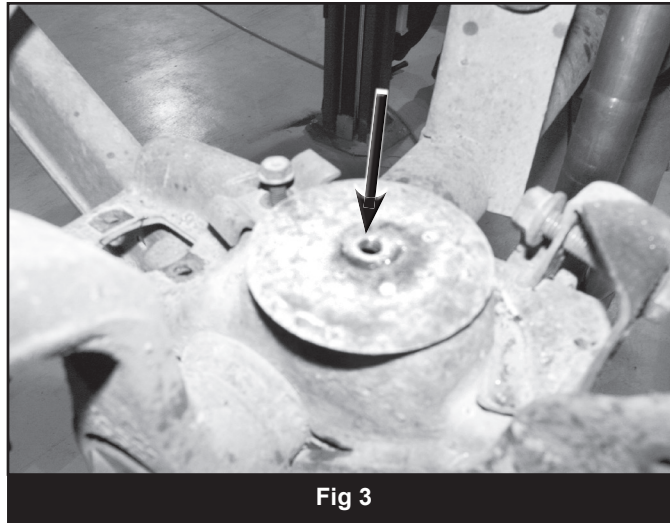

Fig 3
19. Drill lower bump stop holes to 11/32" diameter and use 3/8 self tapping bolt to cut threads for bump stop extension. Remove 3/8" self tapping bolt (BP 438). (Fig 3)